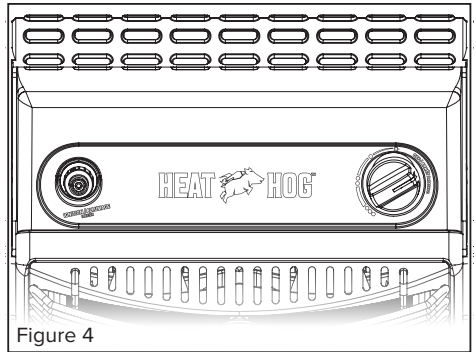

Figure 4
- Turn Control Knob counterclockwise to “PILOT” position and depress knob and hold down; see Figure 4.
- Before attaching propane make sure Control Knob on heater is in “OFF” position; see Figure 4.
Clean the ceramic plaques using compressed air (max. 30 PSI) to prevent damage to plaques. A yellow tip of the pilot flame indicates that the burner area may be in need of cleaning. Inspect and clean the pilot (mounted to bracket) by using a vacuum or apply air pressure through the holes in the pilot Figure 4.